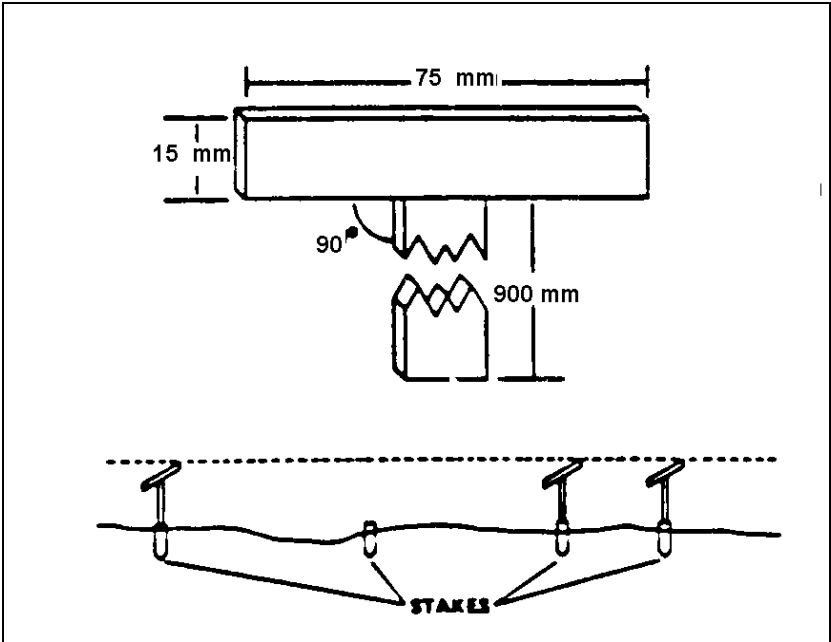

Fig 11-1-3 Boning Rods
7. **Boning Rods.** (Fig 11-1-3). Boning rods are formed in the shape of a capital T. They are generally made of softwood 75 mm wide, 15 mm thick, and 900 mm high. Each consists of a long upright with a head fixed at right angles to the top. They come in sets of threes and of the same size. They are used in the following manner: